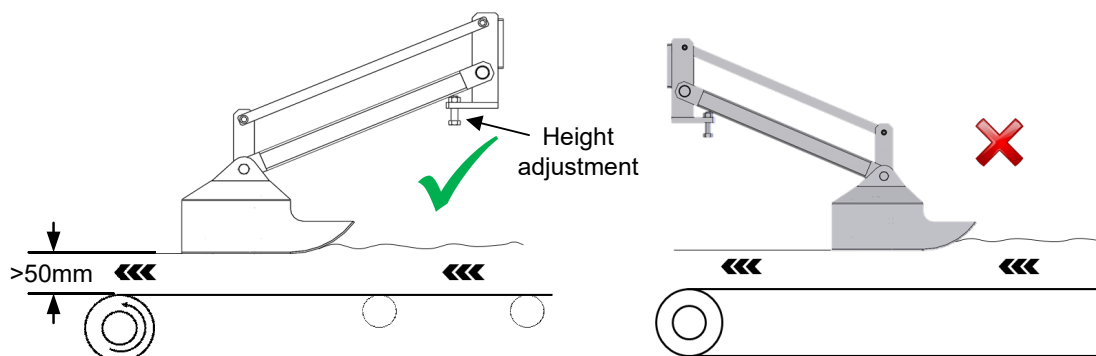
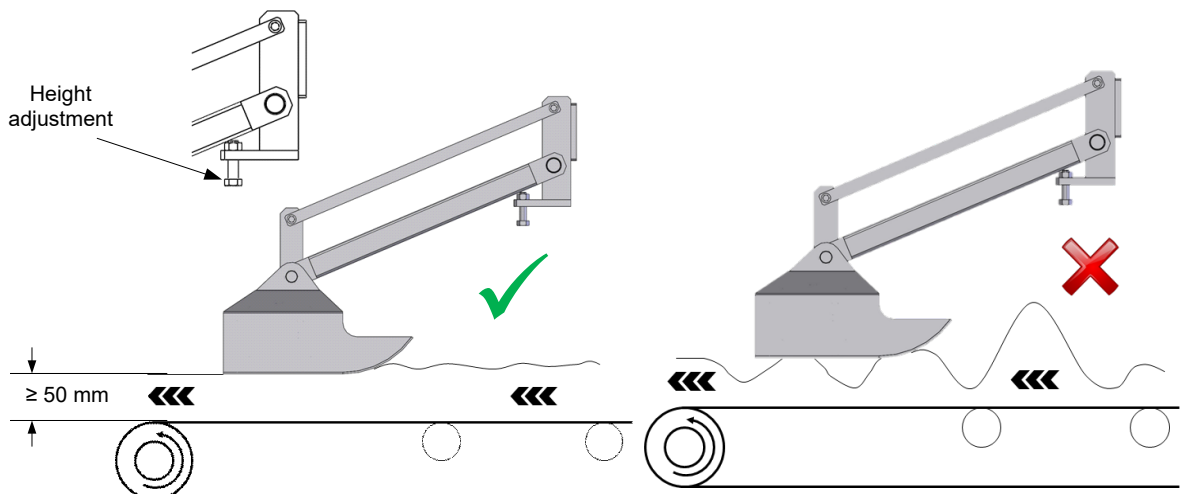

Figure 7: Correct and Incorrect installation of the pantograph arm
Figure 8: Adjusting the height of the Hydro-Skid
The Hydro-Skid should be installed above the conveyor belt using suitable fixings to keep the unit stable during operation. The arm must be installed so that the Hydro-Skid faces towards the pantograph arm fixings (Figure 7). For correct operation the Hydro-Skid must be installed parallel to the conveyor belt.
Once mechanically installed as shown in Figure 7 the height of the Hydro-Skid should be adjusted so that the underside of the Hydro-Skid is at least 50mm from the conveyor belt using the adjustment screw (Figure 8).
5. Once the belt is running with material the Hydro-Skid should be adjusted to allow the Hydro-Skid to ride on the surface of the material on the belt so it removes any air gaps between the sensor and the material, retaining the 50mm gap to the belt (Figure 8).
6. Ensure a consistent material flow beneath the sensor (Figure 8)